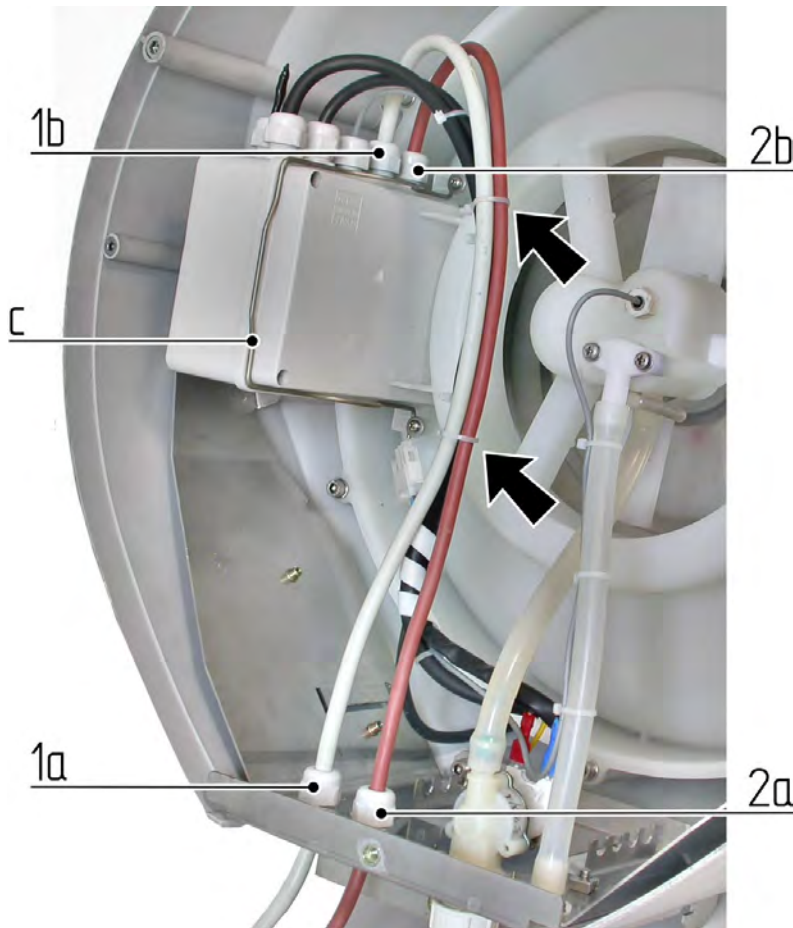

Fig. 15
With reference to Fig. 15:
At the end of installation the inside of the machine should be seen as shown in Fig. 15
- Make sure that all the wires are positioned properly inside the machine as shown in Fig. 15.